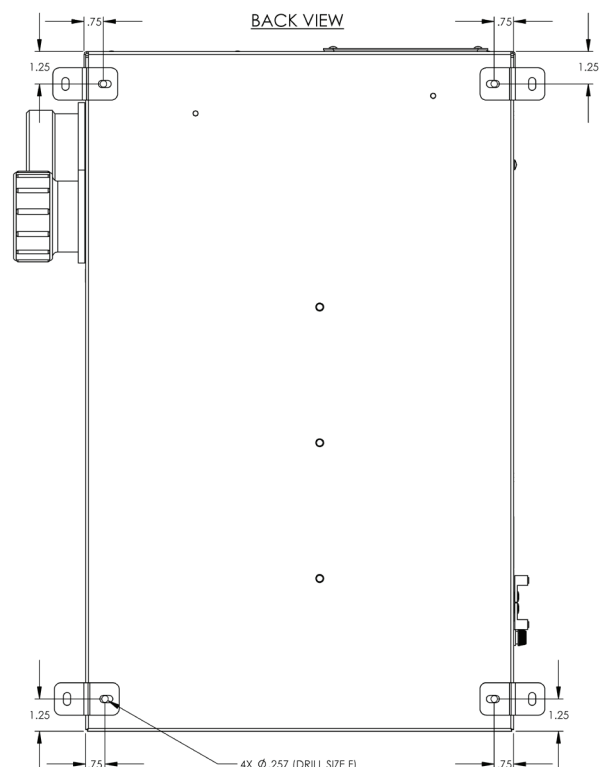

Figure 2: Wall Mounting Hole Pattern
1. Drill holes in the back of the enclosure approximately as shown in Figure 2.